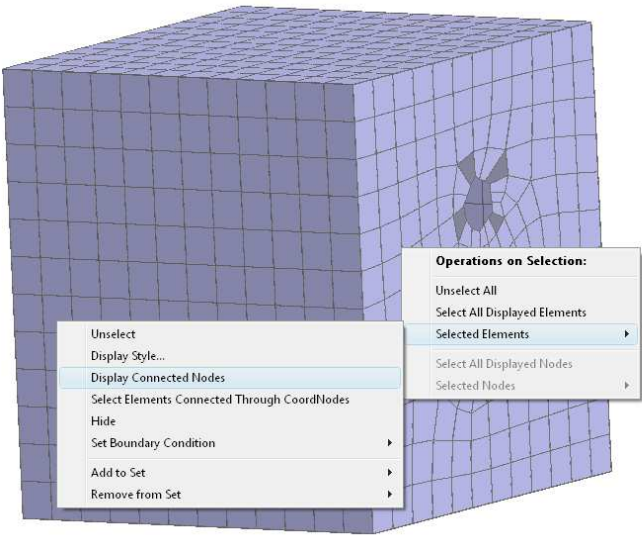

Figure 9.12: Display connected nodes for creating a seam.
- Right-click on the mesh while holding down the *shift-key* to view the context menu and select: **Selected Elements** → **Display Connected Nodes** as shown in Figure 9.12.
- Right-click on the mesh while holding down the *shift-key* to view the context menu and select: **Selected Elements** → **Display Connected Nodes** (similar to the Figure 9.12).